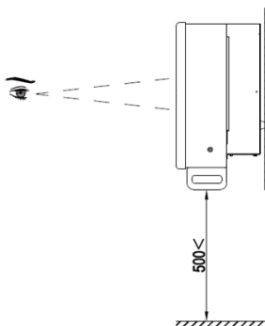

Fig 4.3 Optimum installation height area
- (2) There is enough reserved space around the installation site to facilitate the disassembly and assembly of inverter and air convection. As shown in Fig 4.3.